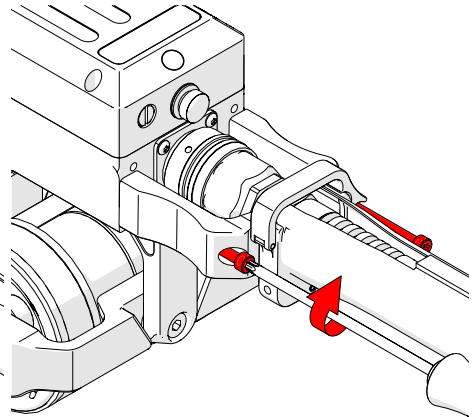

Fig. 138 - Tighten screws
2. Tighten the two clamp screws using the supplied T20 Torx driver to secure clamp to **TRIPOD** (Fig. 138).